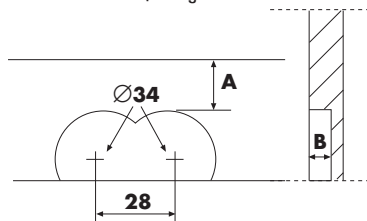

Fig. 1
SISTEMI as always aware of the requirement and problems in woodworking, has created TRIMATIC 28. TRIMATIC 28 is designed for door and window frame makers who manufacture wood/wood-aluminium windows and French windows provided with single/double tilting sash or wing. TRIMATIC 28 allows drilling and manufacturing the seat for angular hinge and upper hinge with a normal pillar drill or a portable electric drill. TRIMATIC 28 is an equipment suitable for drilling holes with a distance between centres of 28 mm. for angular hinges "TREND" (See Fig. 1).
Disassemble the support table (8) and position the equipment on a surface suitable for the type of work. Procure a rod with  $\varnothing 10$  and length suitable for the job to be carried out and insert it in the hole (9). Position the reference stop and lock the whole assembly with the knobs (3). Fix one or more reference blocks on the work surface depending on the length of the door to be drilled. Adjust the screws (7) and (4) (See photo 1) according to the distances "A" and "B" (see Fig. 1). Finally, position the door to be drilled (see Fig. 2)